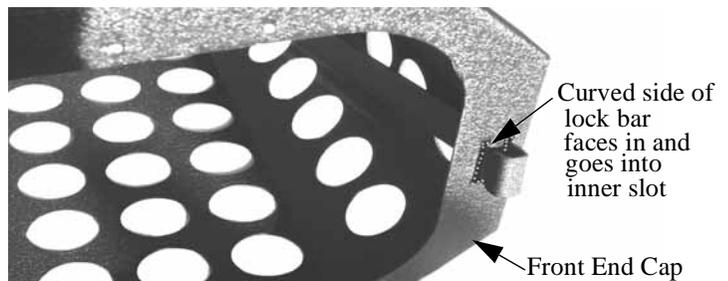

Figure 7. Install Lock Bars
8. Install lock bars through outer slots in front and rear end caps and lock in place (see Figure 7).
7. Install lock bars through slots in front and rear end caps and lock in place (see Figure 7).